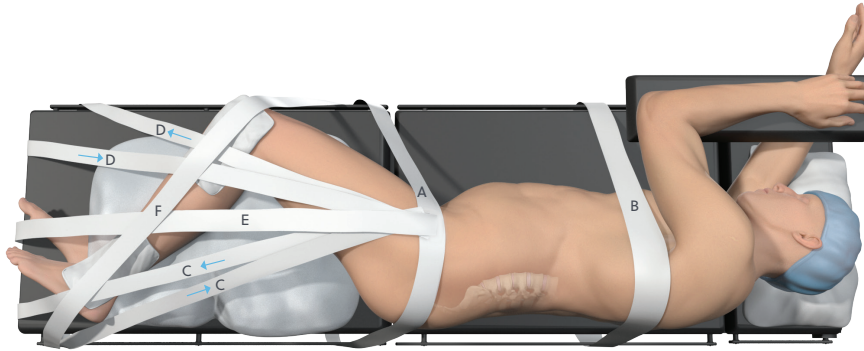

Figure 2
- Secure the patient to the table using surgical tape per the following (Figure 2):